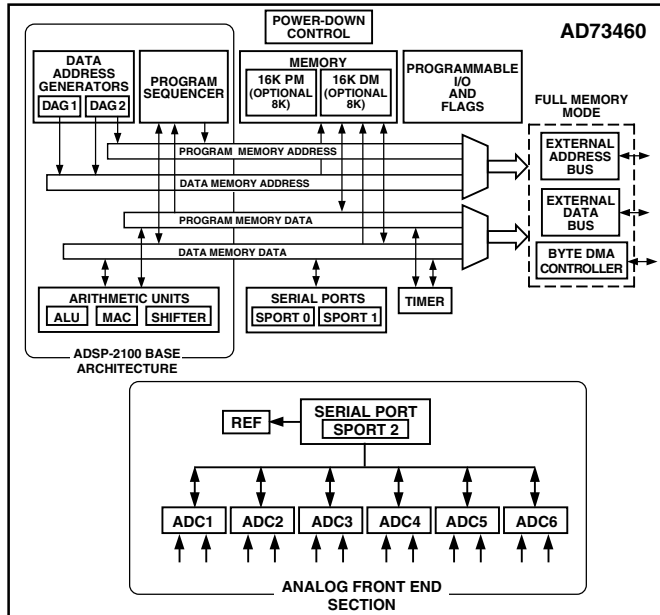

Figure 1. Functional Block Diagram
Figure 1 is an overall block diagram of the AD73460. The processor section contains three independent computational units: the ALU, the multiplier/accumulator (MAC) and the shifter. The computational units process 16-bit data directly and have provisions to support multiprecision computations. The ALU performs a standard set of arithmetic and logic operations; division primitives are also supported. The MAC performs single-cycle multiply, multiply/add and multiply/subtract operations with 40 bits of accumulation. The shifter performs logical and arithmetic shifts, normalization, denormalization, and derive exponent operations. The internal result (R) bus connects the computational units so that the output of any unit may be the input of any unit on the next cycle.